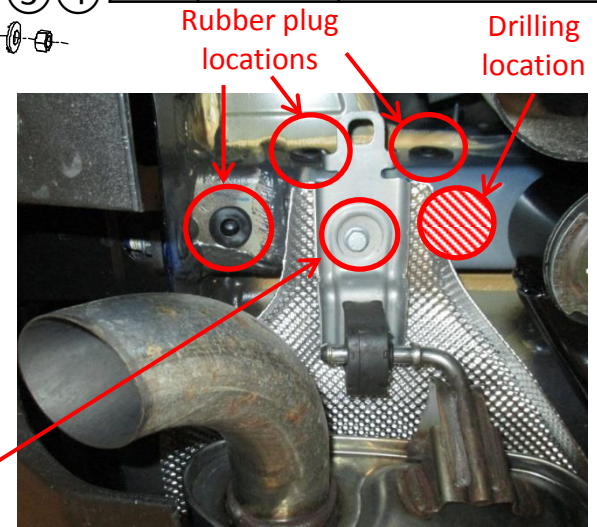

Figure 2
- Loosen wheel well fender for easier installation** - use phillips screwdriver and 10 mm socket to remove (4) bolts and (1) plastic flange nut from wheel well fender on passenger side.
- Rubber plugs removal** - use flat head screwdriver to remove (1) plug from bottom frame rail and (2) plugs from outside frame rail each side, see **Figure 2**.
- Drill access hole for fasteners** - locate the area between exhaust hanger bracket and suspension mount on the frame rail and use a 1" holesaw to drill an access hole each side, see **Figure 2**. Use pliers to bend the heat shield edge down if necessary.
- Lowering exhaust hanger and clearing caulk** - use 13 mm socket to remove (1) bolt from exhaust hanger each side and lower the muffler temporarily, see **Figure 2**. Use a support to keep muffler from getting damaged. Use a knife to remove caulk near mounting holes and slightly bend the heat shield edge down each side, see **Figure 3**.
2. Rubber plugs removal - use flat head screwdriver to remove (1) plug from bottom frame rail and (2) plugs from outside frame rail each side, see **Figure 2**. **NOTE:** for the models with factory tow hook, use 21 mm socket to remove M14 bolts in these locations and save them for reinstallation. **Skip Step 3.**
3. Drill access hole for fasteners - locate the area between exhaust hanger bracket and suspension mount on the frame rail and use a 1" holesaw to drill an access hole each side, see **Figure 2**. Use pliers to bend the heat shield edge down if necessary.